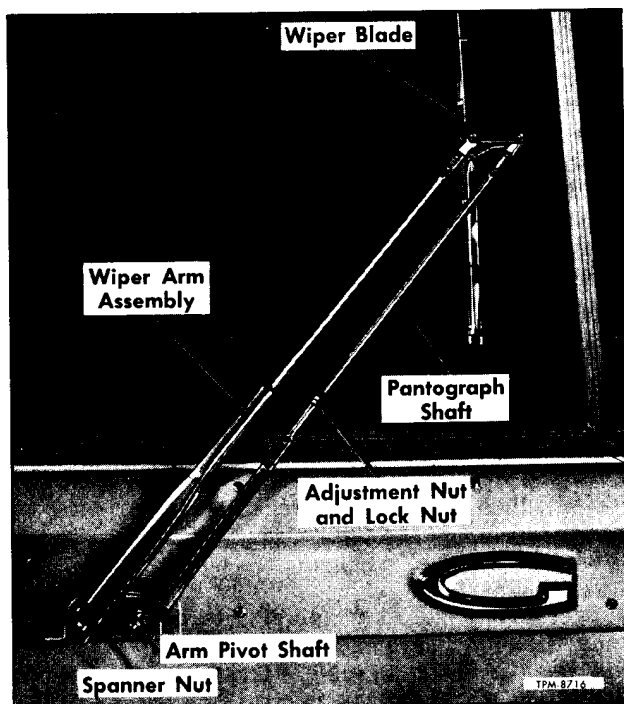

Figure 14—Windshield Wiper Arm and Blade
WIPER BLADE ANGLE ADJUSTMENT (Fig. 14)
Pantograph shaft length is adjustable to allow setting wiper blade angle. Each blade should travel across windshield in a position so that when the arm is at the end of its outward sweep, the wiper blade should be parallel with edge of windshield as shown in figure 14. If necessary, adjust angle of blade as follows:
1. Loosen lock nuts on pantograph shaft (fig. 14).